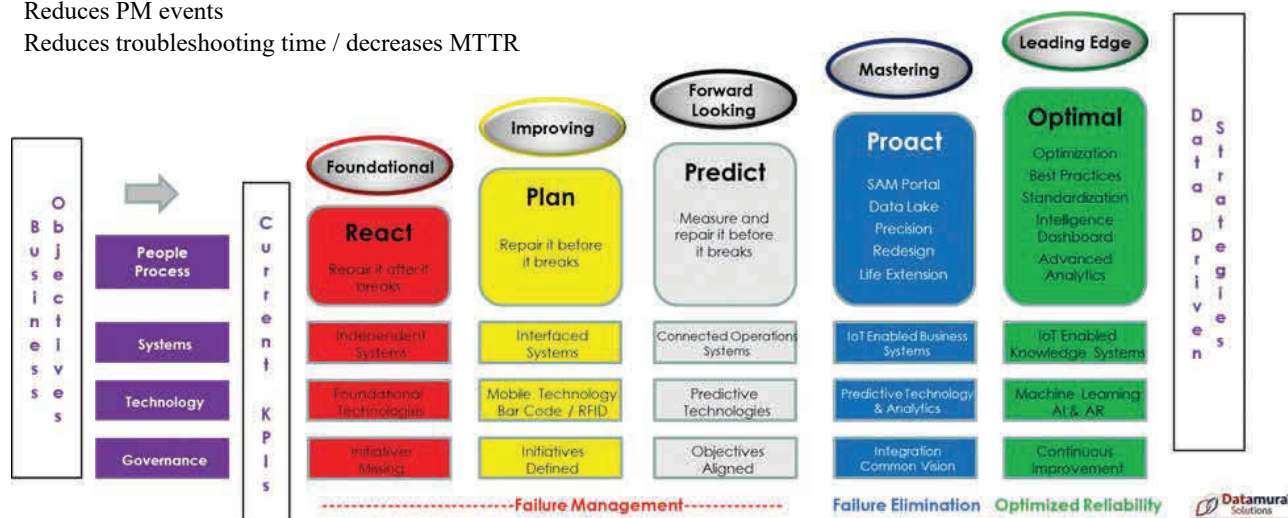

Figure 12 - Asset Performance Management Maturity Framework
1. Assess where your program falls within the maturity matrix (See Figure 12).